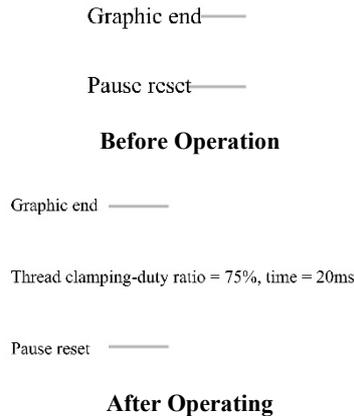

Fig. 5.10.6a Schematic Diagram of the Operation of the Whole Graphic End Command Set
③ After adding all commands, if there are any that need to be deleted or modified, just double-click the command segment to change the parameters and the parameter setting box will pop up. To delete a command, just select the command segment and click the Delete button. To move the command segment, just select the command and click the "↑" and "↓" buttons to move the command segment up/down.
④ Finally, click OK to save this default command set. After clicking the command processing, these commands will be added by default at the whole graphic end. The operation diagram is shown in Fig. 5.10.6a below.